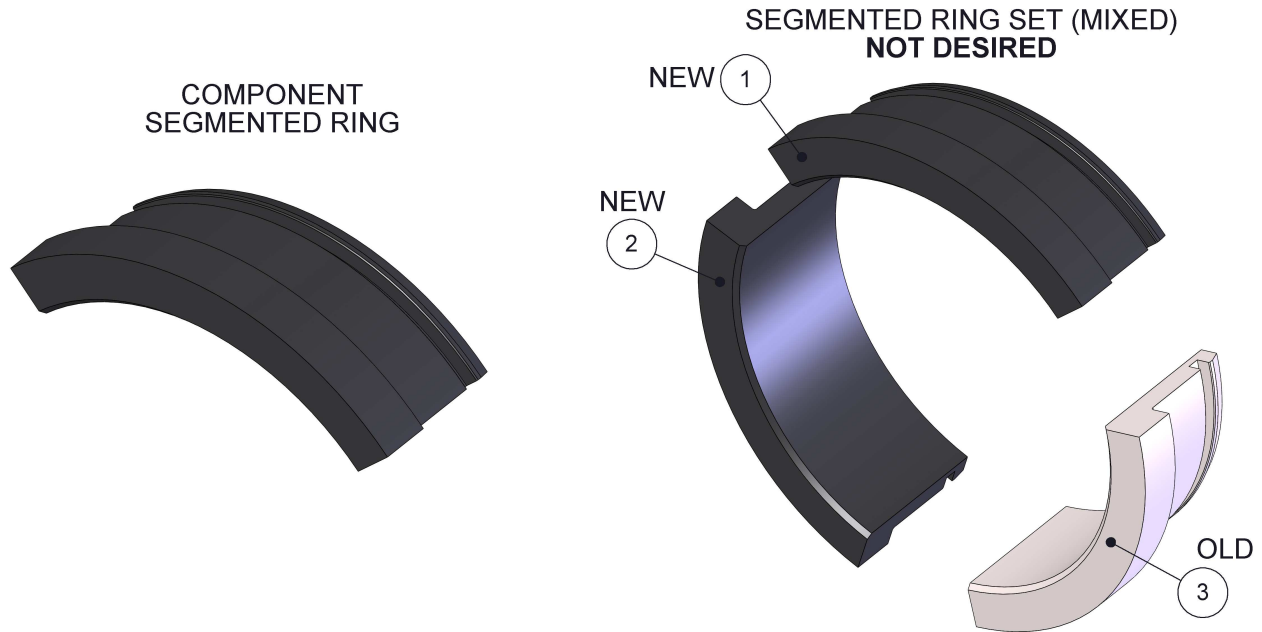

Figure 1
Kemper Valve and Fittings is publicizing the difference between old and new revision segmented ring sets in order to ensure that the component segmented rings of each set are **NOT** interchanged. A segmented ring set consists of three (3) identical component segmented rings – see Figure 1.